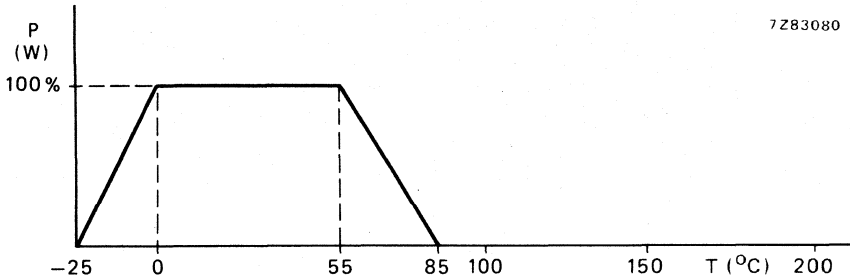

Fig. 2.
Maximum dissipation (P)	25 mW (see Fig. 2)